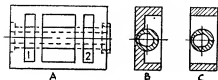

Fig. 17
Fig. 17 is a sketch of the main valve for H.P. cylinder, and, as will be seen, is really in the main, an ordinary D-valve with the exception
that it is sufficiently long to allow the steam ports 1 and 2 to be cut through it as shown at A, Fig. 17, allowing whatever lap may be required on the inner edges of the ports, the total width of the port being equal to the width of port in the valve-face on the cylinder. The foregoing remarks are only a generalisation; the actual details and dimensions need to be arrived at by geometrical methods.
As the ports are cut right through the valve, and the valve spindle also passes through the valve, but at right-angles to the ports, some means must be adopted to prevent steam passing from one port to the other *via* the valve-spindle passage. This was provided for by boring a hole larger in diameter than the valve-spindle, and forcing a brass bush with a collar at one end and a round nut at the other right through the valve; see A, Fig. 17. After the bush had been placed in position and the nut screwed up, the end of the bush was riveted over the nut, lightly, more to prevent the nut slacking back than to prevent the bush moving; this latter defect is not anticipated, as the bush was made a driving fit in the valve. It will be noted that the bore of the bush is not round, but elliptical, the major axis being at right-angles to the face of the valve; the reason for this departure from the round is to allow the pressure of the steam on the back of the valve, to keep the latter tight up to the cylinder valve-face when under working conditions.
B and C, Fig. 17, show sections of the valve through (B) the exhaust cavity, and (C) one of